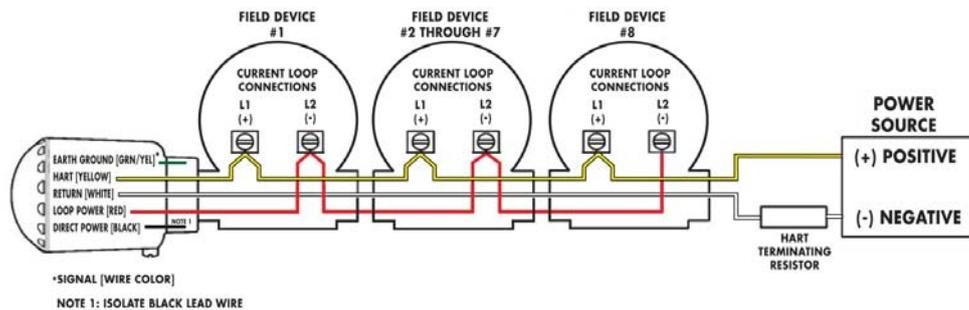

FIGURE 27: LOOP POWER Multi-Drop Configuration
For proper HART communication the Wired-HART network requires a 250Ω terminating resistor. When configured for LOOP POWER, the terminating resistor must be hard wired into the system as shown in Figure 27. The HART terminating resistor must be located in series with either power source terminal. The location of the HART terminating resistor will not affect the wiring shown in Figure 27. To operate in this mode the Device Description (DD). Parameter FIELD DEVICE POWER CONTROL must be set to the OFF position which is the factory default setting.
Figure 27 is a simplified representation of this LOOP POWER multi-drop configuration. The DIRECT POWER, black lead wire, is not required for this configuration and is not shown. The EARTH Grounding connection is not shown.